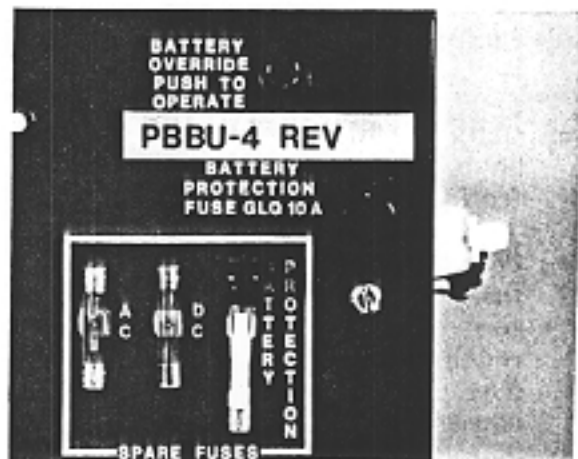

FIGURE 14
02.23 Slip the PBBU fuse holder and battery override button through their respective ports in the control panel (Figure 14). The PBBU mounting bracket should be flush against the rear of the control panel. The harness should flow around the PBBU PCB, with no wires beneath it.
02.25 Use the previously removed screw and secure the mounting bracket to the control panel (Figure 14).
02.28 Depress the battery override button (Figure 14). If it catches and stays in, press it again to cause it to release and protrude out of the control panel. The button must be out for the MPSA to operate normally.
02.32 A "PBBU-4 REV" decal must be placed on the control panel of the MPSA. Remove the decal from the kit, peel the backing off, and place it on the control panel (Figure 14).